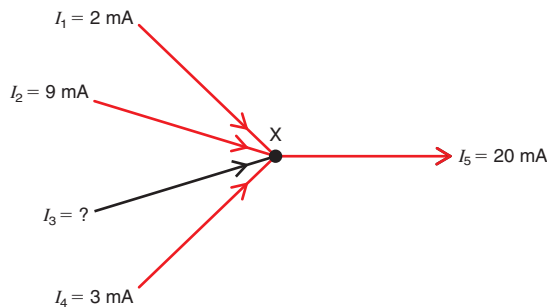

Figure 8-14
- 8.3 In Fig. 8-14, solve for the unknown current, I_3 .